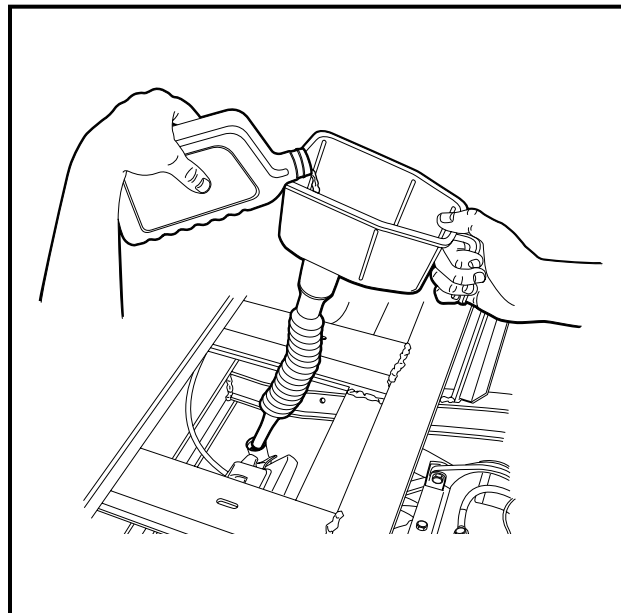

Figure 13-13 Add Engine Oil
7. Install oil drain plug in the crankcase and tighten to 20 ft-lb (27.1 N-m). Apply a light film of oil on the seal of a new oil filter and install the filter on the crankcase. Fill the crankcase to the proper level with the correct type of oil (**Figure 13-13, Page 13-10**). **See Periodic Lubrication Schedule, Section 10, Page 10-2.**